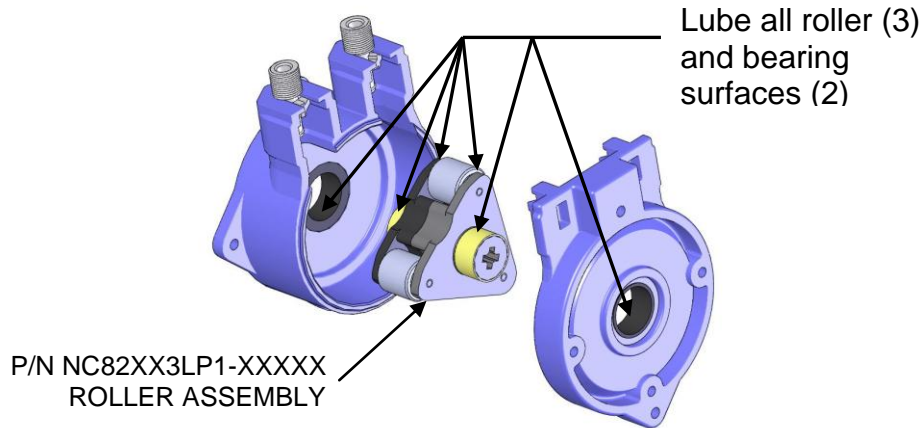

*Figure 7b: Pump Head Assembly with Front Cover Removed*
4. Remove the two thumb screws holding on the pump head cover and remove - See figure 7b above.